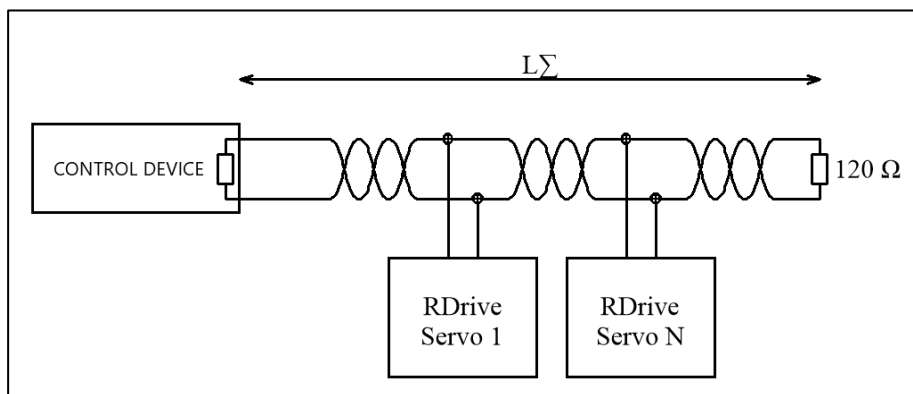

Figure 4-1: CAN connection to control servos based on CANOpen
- In case servo control is based on the **CANOpen protocol stack**, provide a CAN bus connection of the configuration as shown in **Figure 4-1**.
The connection is in accordance with the diagram as shown in **Figure 4-1**. Connect the CAN cables on the RDrive input flange to the corresponding twisted pair wires: the brown one to CAN_{HIGH}, and the blue one — to CAN_{LOW}.
To enable control based on CANOpen, connect RDrive servomotors in accordance with **Figure 4-1**. For a detailed description of the CANOpen communication interface implemented for RDrive servos and related application cases (including servo initialization), refer to the CANOpen Communication Guide.